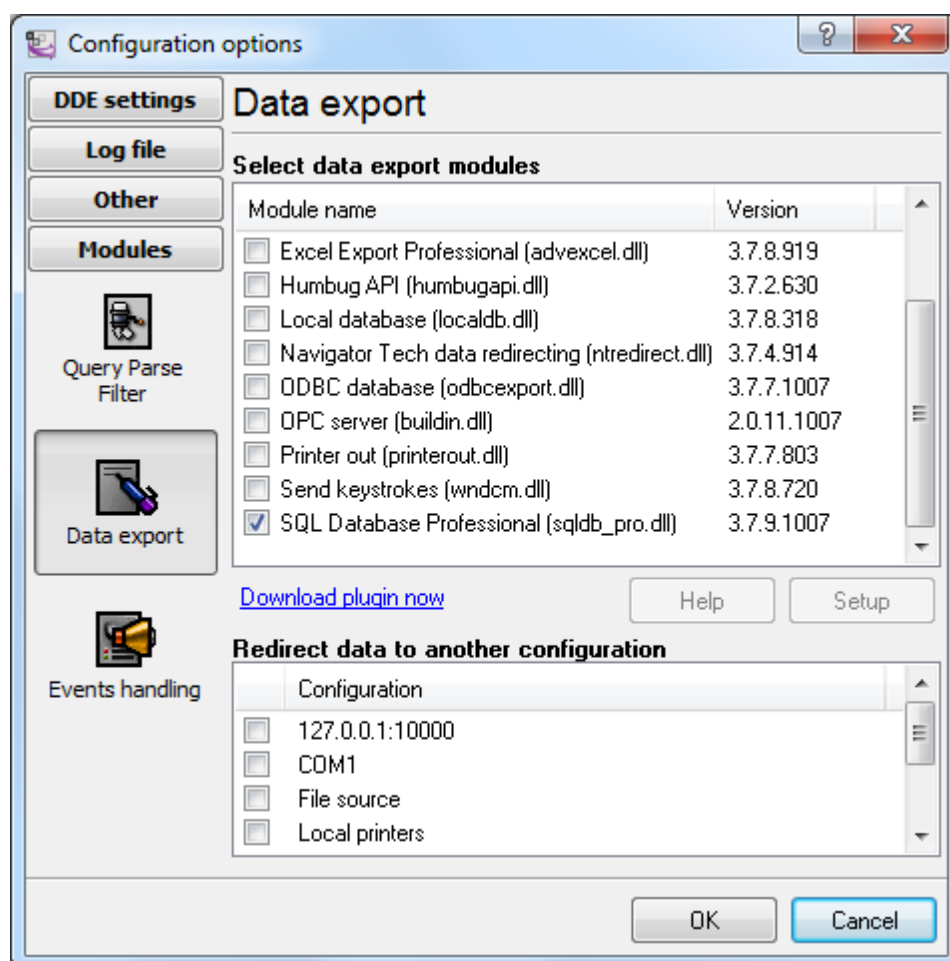

Fig. 1 Selecting the data export plug-in
2. If it is an SQLBase, Oracle, SQLServer, Sybase, DB2, Informix, Interbase, Firebird, MySQL or PostgreSQL database, you can use the "SQL Database Pro" data export plug-in (fig.1) instead of the "ODBC database" plug-in. You should download and install this plug-in separately after you install the program. In this case, you also add DDE items^[68] and select the parser, but you configure the "SQL Database Pro" plug-in instead of the "ODBC database" plug-in the way it is described in the manual on our website.